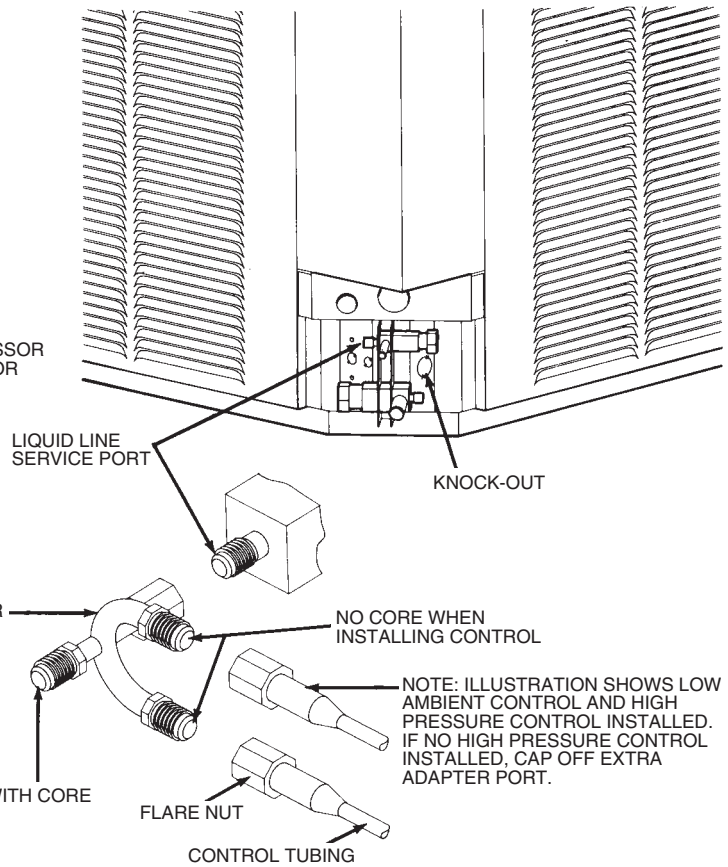

FIGURE 3. FITTING CONNECTIONS
4. For "Cube" style unit route control tubing with flare nut through the knock-out provided in the valve mounting panel. See Figure 3. Install grommet in knock-out hole.
5. Connect flare nut to adapter fitting that does not have a valve core. See Figure 3.